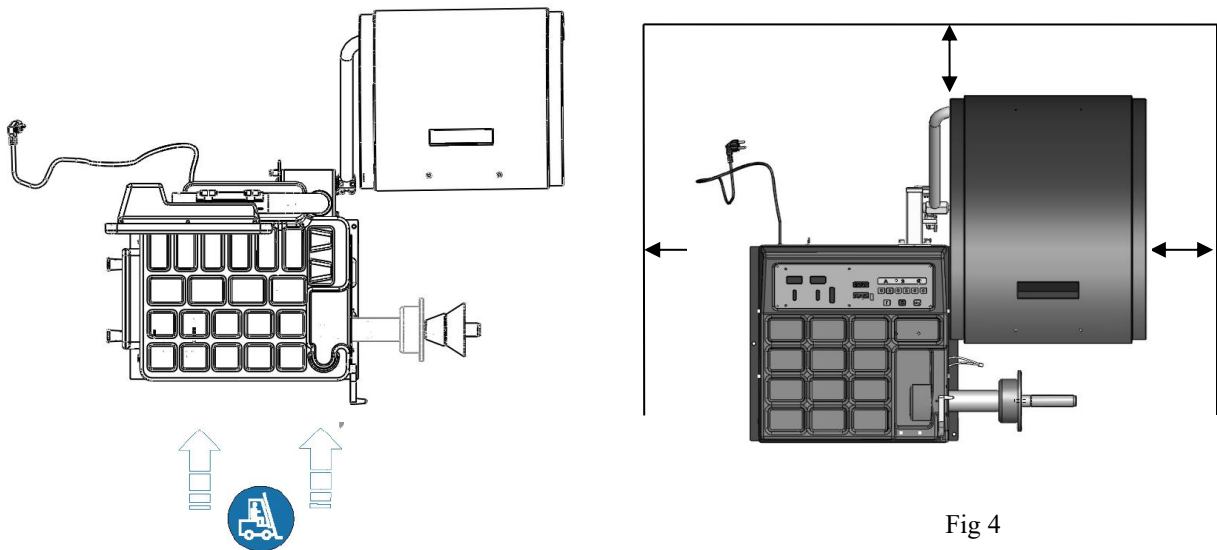

Fig 4
4. 1. 1After being sure that the package of your machine is perfect, you can carry the wheel balancer to the installation site.(Fig3). The choice of the installation should comply with the following requirements. The ambient temperature is 0°C-50°C and the RH ≤85%. And the installation site as shown in Fig4